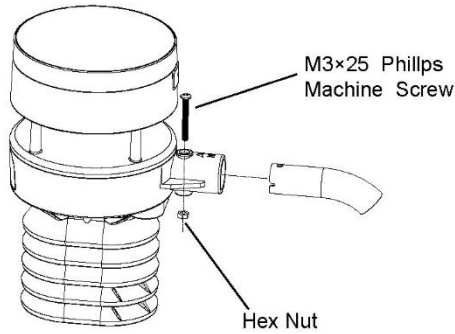

Figure 10: Sensor package mounting diagram 5-3
3. Attaching the arm tube to the Ultrasonic Sensor as Figure 10.
5. If optional extension cord is added, connect the cord to the connector and insert the USB port into the AC adaptor as Figure 10 show: